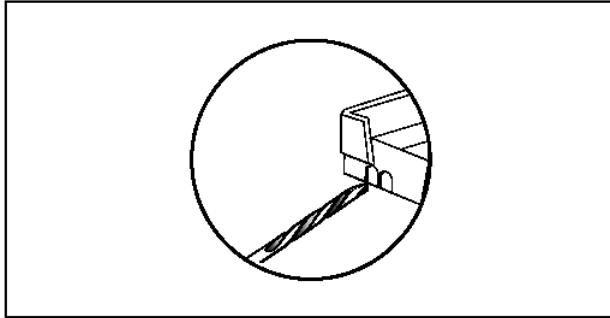

Fig. 4 : Fit W7EG20 housing
2.4 Fit W7EG20 housing (fig. 4)